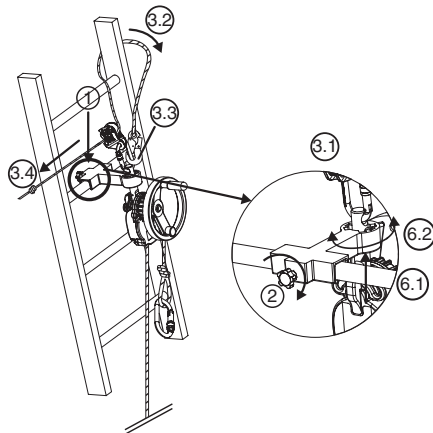

Fig. 7
### 6.3.3. Derope™ UP K descender (Fig. 7)
1. Place the small support bracket in the position required to carry out the rescue operation above the person to be evacuated (Fig. 7, 1).
2. Tighten the locking pin located at the back of the support bracket using the clamping knob (Fig. 7, 2).
- Secure the connector of the adjustment device LCM 05 in the hole at the top of the fastening pin (Fig. 7, 3.1).
- Run the belay lanyard around the ladder bar located above the bracket, going around one of the ladder uprights (Fig. 7, 3.2).
- Connect the belay lanyard connector in the connector of the adjustment device LCM 05 (Fig. 7, 3.3).
- Tension the belay lanyard by pulling on the free strand (Fig. 7, 3.4).
6. Align the Derope™ descender as may be required, modifying the position of the fastening pin in the indexing device (Fig. 7, 6.1 – 6.2).